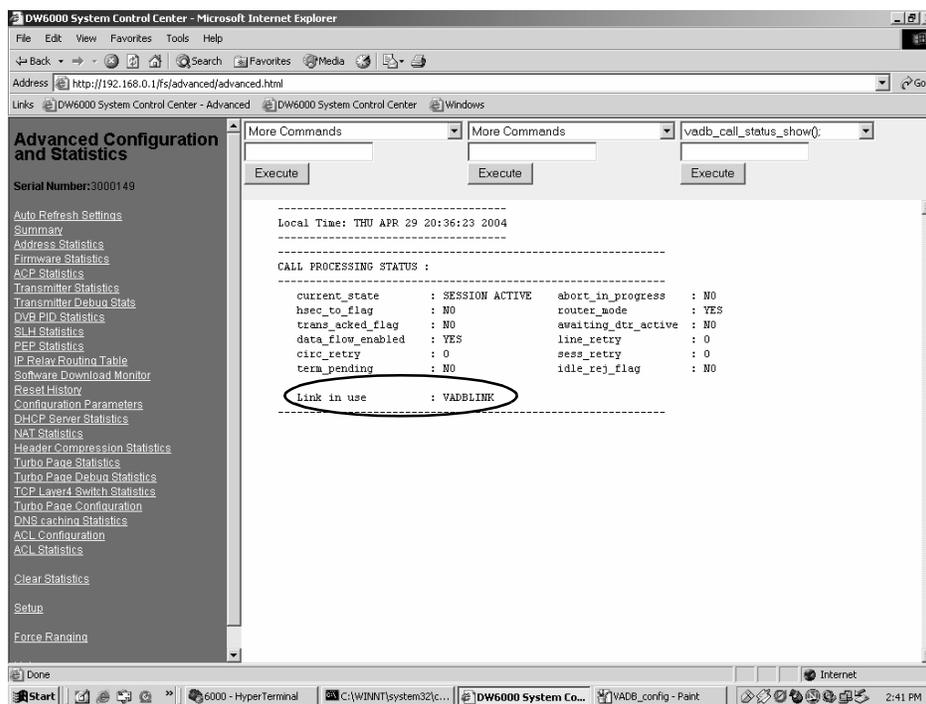

Figure 71: Verify VADBLINK
- b. From the right-most drop-down menu, select *vadb\_call\_status\_show* as shown in Figure 71 and then click **Execute**.
- c. Verify VADBLINK appears in the Link in use field circled in Figure 71.